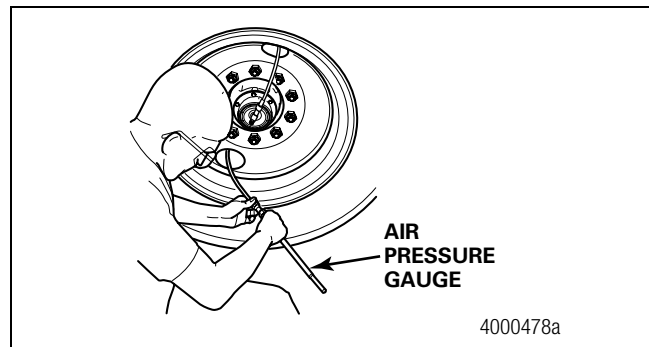

Figure 4.3
5. Use an accurate air pressure gauge to check the tire pressure at the system hoses. Figure 4.3.